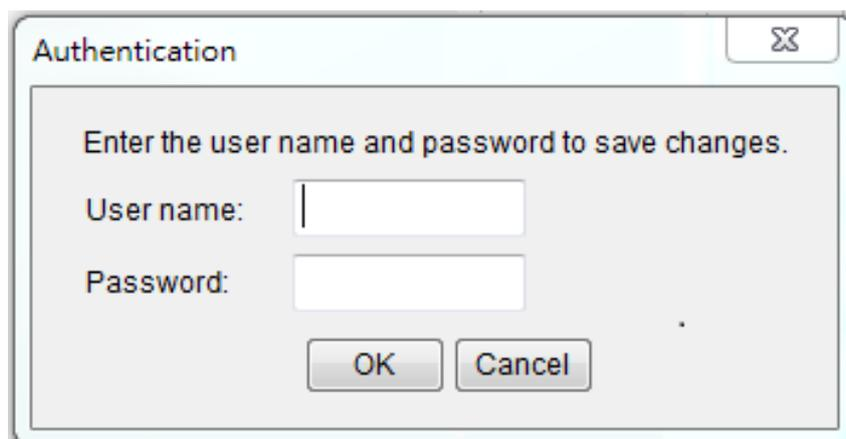

Figure 3. Authentication window.
7. You will need to enter a User Name and Password for the Remote Management Card in the authentication window, as shown in Figure 3. There are two factory default user name and password, and both can work.